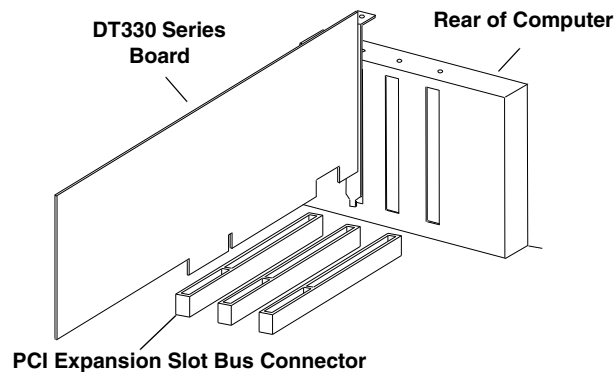

Figure 2: Inserting the DT330 Series Board in the Computer
4. Position the board so that the cable connectors are facing the rear of the computer, as shown in Figure 2.